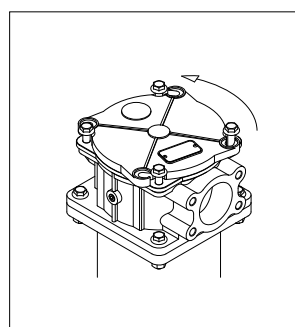

fig. 12
- (Fig. 12) Press and at the same time rotate the cover counterclockwise until the heads of the screws fit in slots